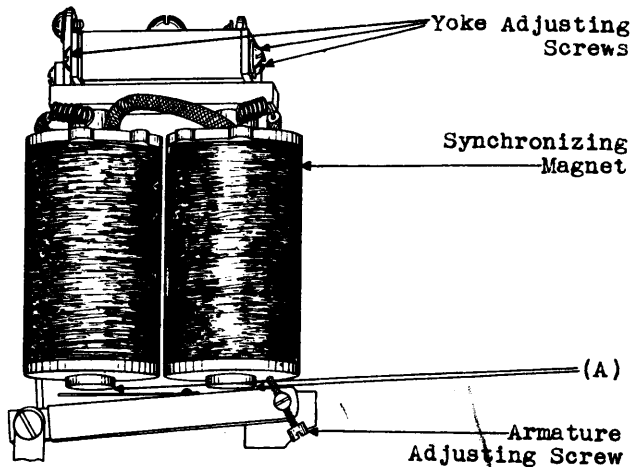

Fig. 6 - Synchronizing Mechanism
***2.22 Armature Air-Gap - Fig. 6 (A):** With the armature in the operated position there shall be a clearance between the synchronizing armature and each of the two pole-pieces of Min. .010" Use the No. 74D gauge.